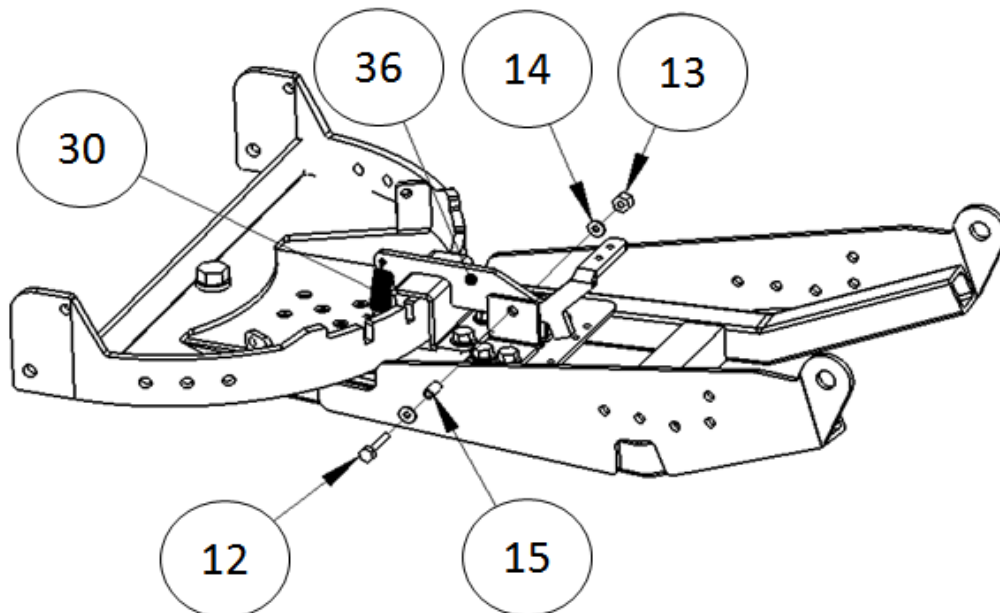

Figure 9
- 9) Attach the Pivot Lock Lever (#36) to the Pivot Lever Risers (#35) (Attached in Step 8) via the 1/4" Bolt (#12), Washer (#14), Nylock Nut (#13) and Aluminum Spacer (#15) included in your kit. (**Figure 9**). Tighten the 1/4" hardware such that the Pivot Lock Lever can still move freely. You can now tighten the 3/8" bolts from the previous step to secure the Pivot Risers. Using needle nose pliers, attach the Lock Lever Spring (#30) to the nose of the Pivot Lock Lever (#36) and the slit in the Pivot Lever Support Bracket (#34). The Pivot Lock Lever should move freely when the handle is depressed and return promptly when released.